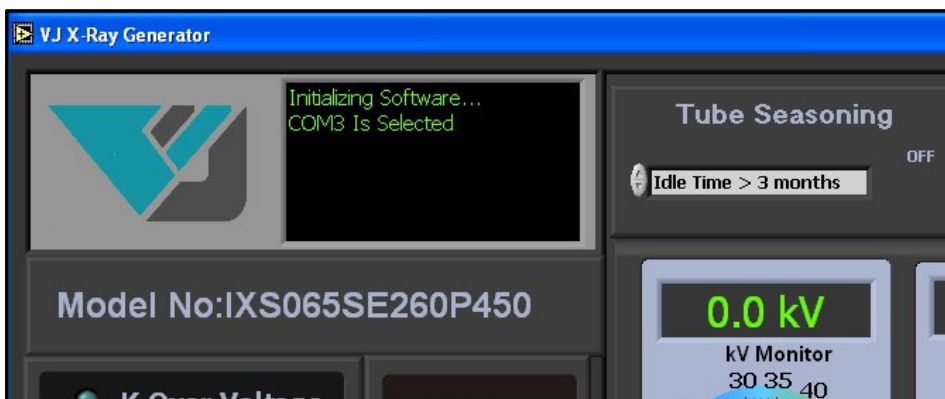

Fig 3-9 GUI Interface – Serial Connection
7. If you choose to connect the serial port, the GUI will open as shown in Fig 3-9 and begin automatically searching for the correct COM port used for serial communications among all available COM ports. When found and successfully connected it will display the COM port used in the upper left-hand corner just below **Initializing Software...**